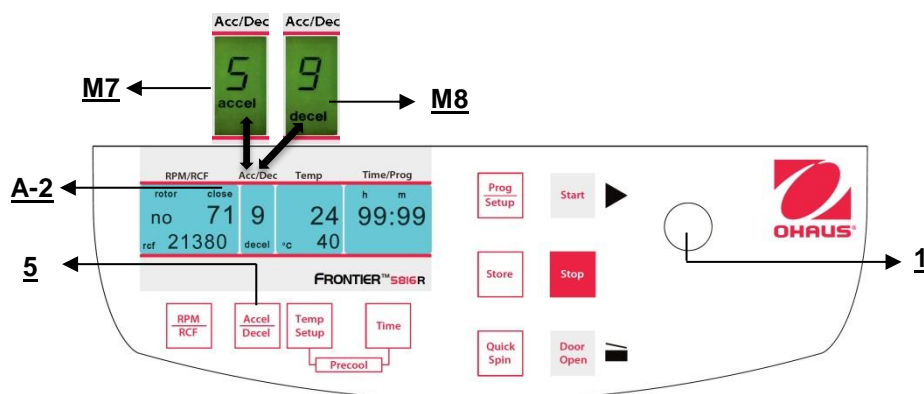

Figure. 18
This function is activated through the key "**Accel/Decel**" (5) (refer to figure 18).